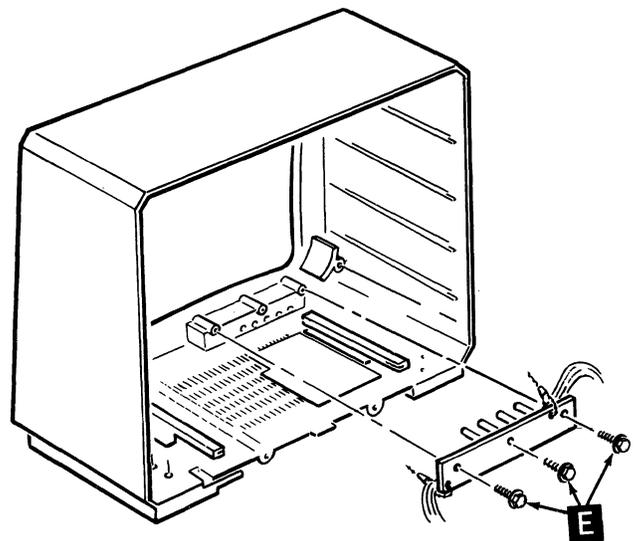

Figure 6.10
- Refer to Figure 6.10 and remove the three 8-18 x .500" hex head screws at E that secure the control panel assembly to the back of the front of the cabinet.